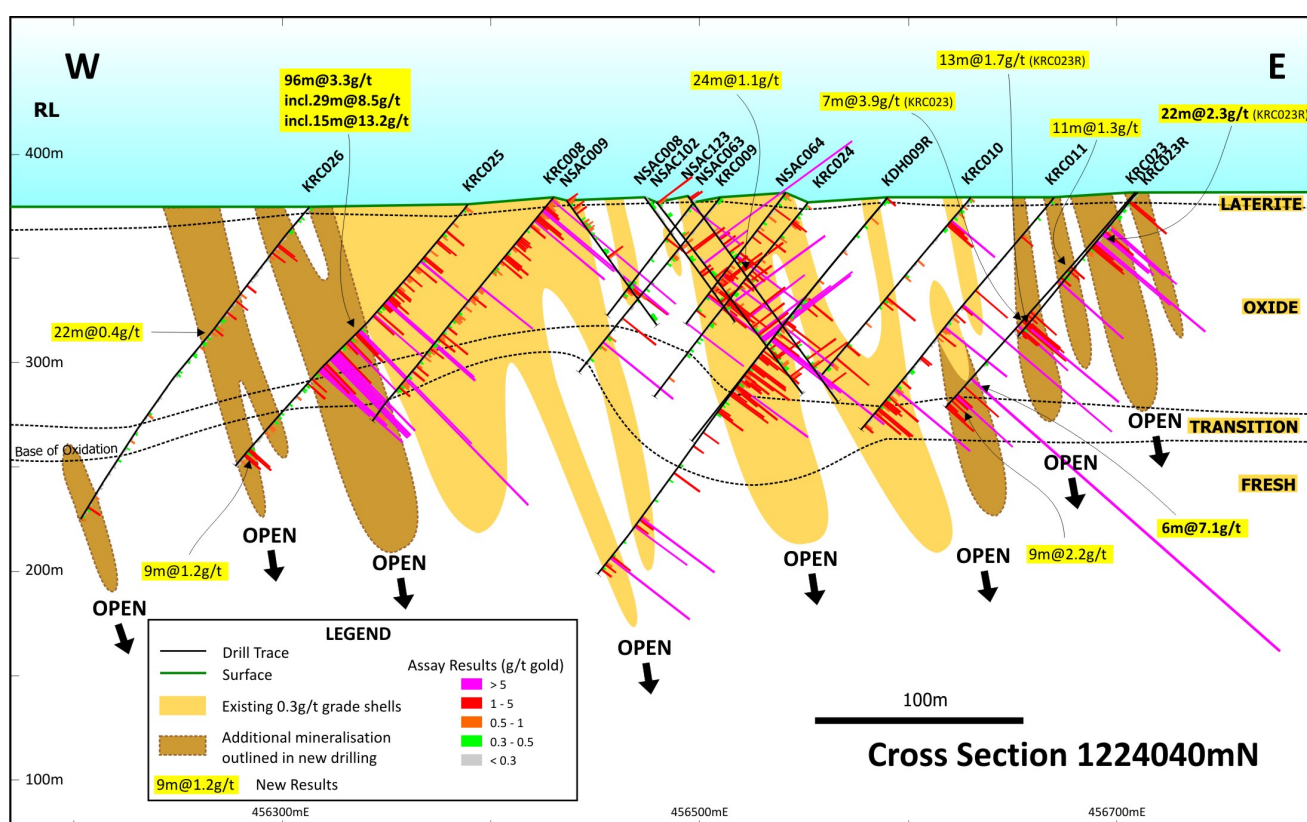

Figure 1: Drill section 1,224,040mN with new assays for KRC023 - KRC026 & KRC023R.
Golden Rim recently commenced its second round of Mineral Resource definition drilling at Kada, focused on an area where Newmont previously outlined a non-JORC gold resource (Figures 2 & 4). New assay results from five infill reverse circulation (RC) holes (KRC023 – KRC026 & KRC023R) for 701m on drill section 1,224,040mN are reported in this announcement (Figure 1).
Drill hole collar details are provided in Table 1 and the hole locations are depicted on Figure 2. All significant new gold intersections ($\geq 5\text{m} \times \text{g/t}$ gold) are presented in Table 2 and Figure 1.